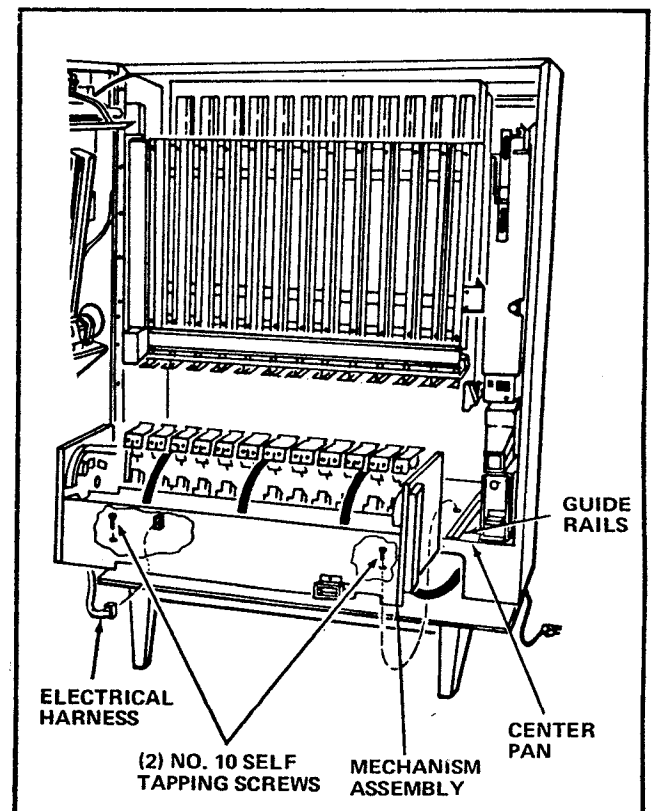

FIGURE 1
4. Disconnect the Merchandiser Door Harness from the Receptacle on the left end of the Mechanism Harness Assembly and pull the Door Harness out of the Mechanism Assembly. See Figure 1.
5. Disconnect the Merchandiser Cabinet Harness from the Plug on the right end of the Mechanism Harness Assembly and pull the Cabinet Harness out of the Mechanism Assembly. See Figure 1.
6. Remove two No.10- Self-Tapping Screws from the inside bottom of the Mechanism which attach the Mechanism Assembly to the Center Pan in the Cabinet. See Figure 1.
7. Using two men, carefully pull the Mechanism Assembly forward, stopping about half way, and close and lock the Front and Center Magazines; then, resume sliding along the guide rails and out of the Cabinet. See Figure 1.